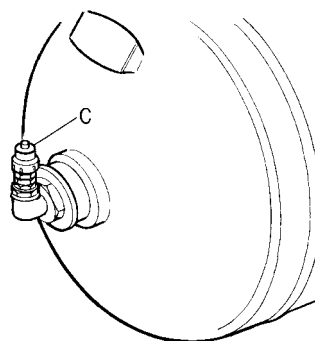

fig. 11
- The electric compressor is provided with a safety valve set a pressure superior to that of the maximum pressure set in the air pressure switch. It is released in case the air pressure switch is damaged and opens an air outlet for exceeding air (*fig. 11*).
Control the correct functioning of the safety valve every 2000 hours of operation. Switch off the compressor when it has reached a pressure of 6-7 bar and pull the valve ring C with strength, without getting near with the face. Compressed air will be released. If when releasing it, the ring goes back in normal position and stops the air outlet, the valve is perfectly working (*fig. 11*). If otherwise contact a technician for the replacement.